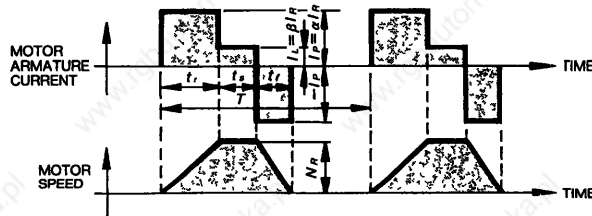

Fig. 4. 3 Timing Chart of Motor Armature Current and Speed
- When the motor remains at standstill between cycles of acceleration and deceleration without continuous rated speed running (Fig.4 4)